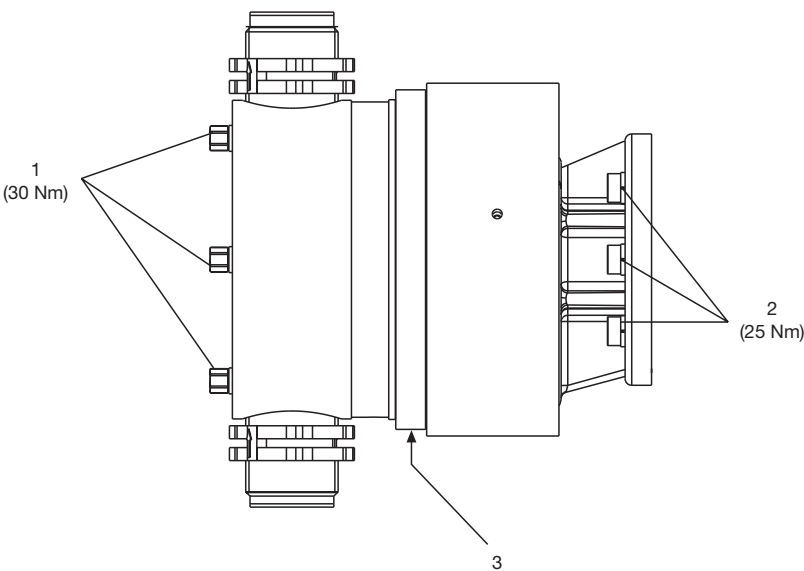

Fig. 16 Makro TZ diaphragm liquid end (TZMb and TZMa)
- On diaphragm liquid ends (TZMb and TZMa) (see Fig. 16):